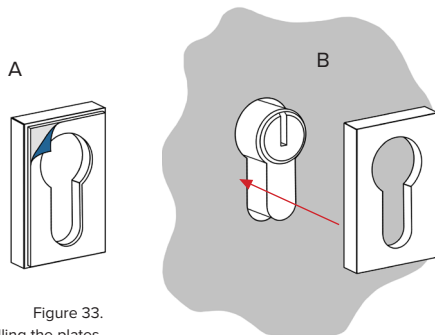

Figure 33.
To install the wall pad, degrease the installation place (around the hole for the cylinder), peel off the protective film of the adhesive base (A), and stick the pad on the installation place (B) (figure 33).